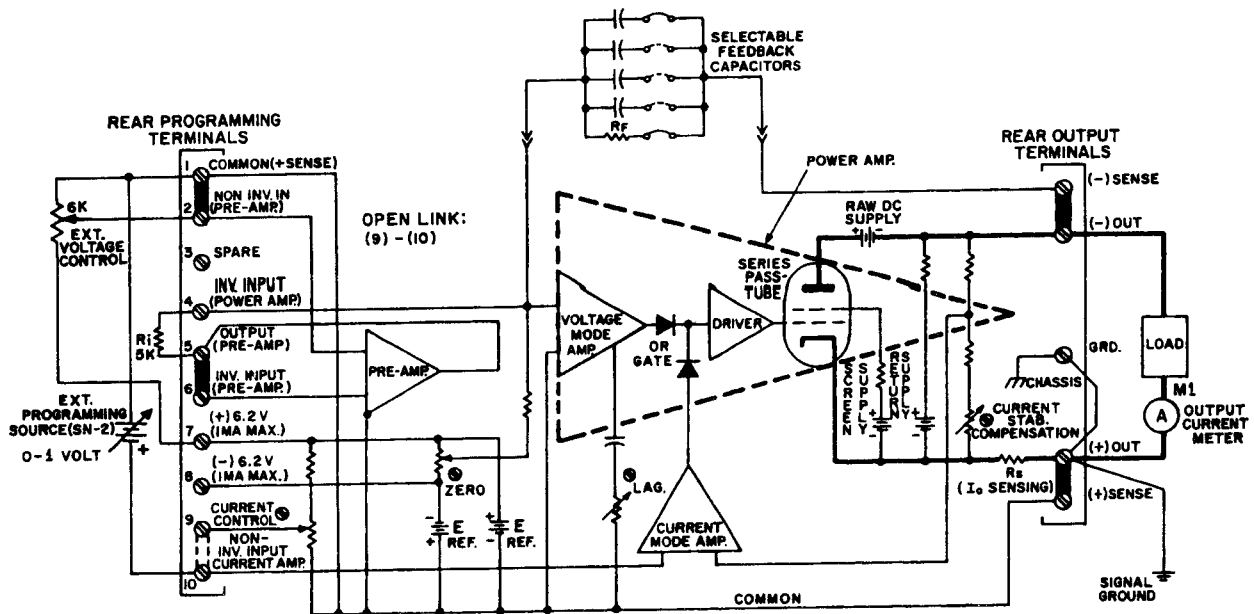

FIG. 3-14 CONNECTIONS FOR OUTPUT CURRENT CONTROL, USING AN EXTERNAL CONTROL VOLTAGE.
- 2) Refer to FIG. 3-14. The Kepco SN-2 is used as the EXTERNAL PROGRAMMING SOURCE, producing the control voltage between the "common" and the current amp input. The required compliance (output) voltage can be adjusted by the EXTERNAL VOLTAGE CONTROL potentiometer.
- 3) Refer to FIG. 3-14. Connect all external components as shown. Turn the Kepco SN-2 "on" and set to zero. Turn OPS "on." Set EXTERNAL VOLTAGE CONTROL to the required load compliance voltage.